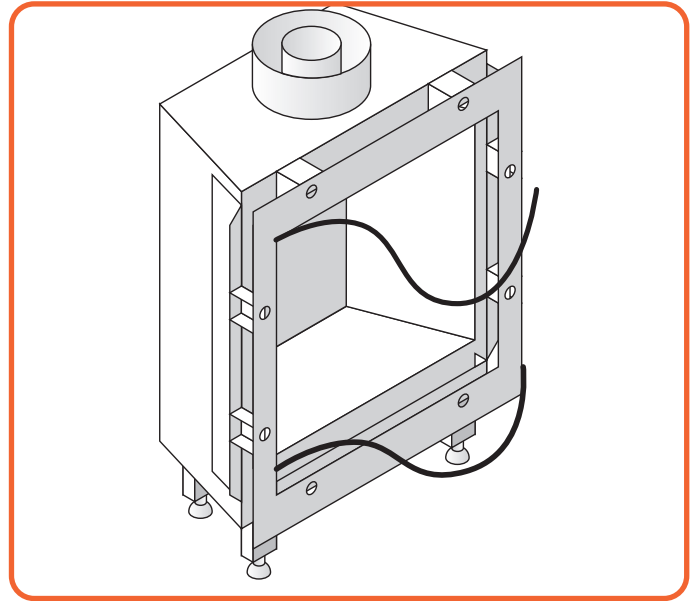

Figure 9.5 | Remove glass rope
- Remove the glass cords. (See Figure 9.5)